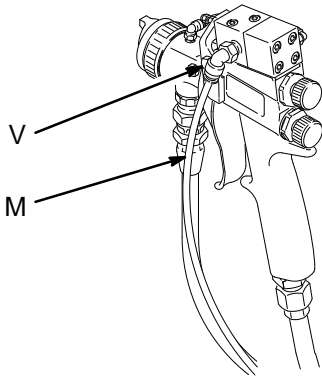

Fig. 10
- A. Connect the fitting (V) and tube (M) to the gun activator inlet. See Fig. 10.
- B. Connect the other end of the fluid tube (M) to a regulated fluid supply line or a pressure tank.